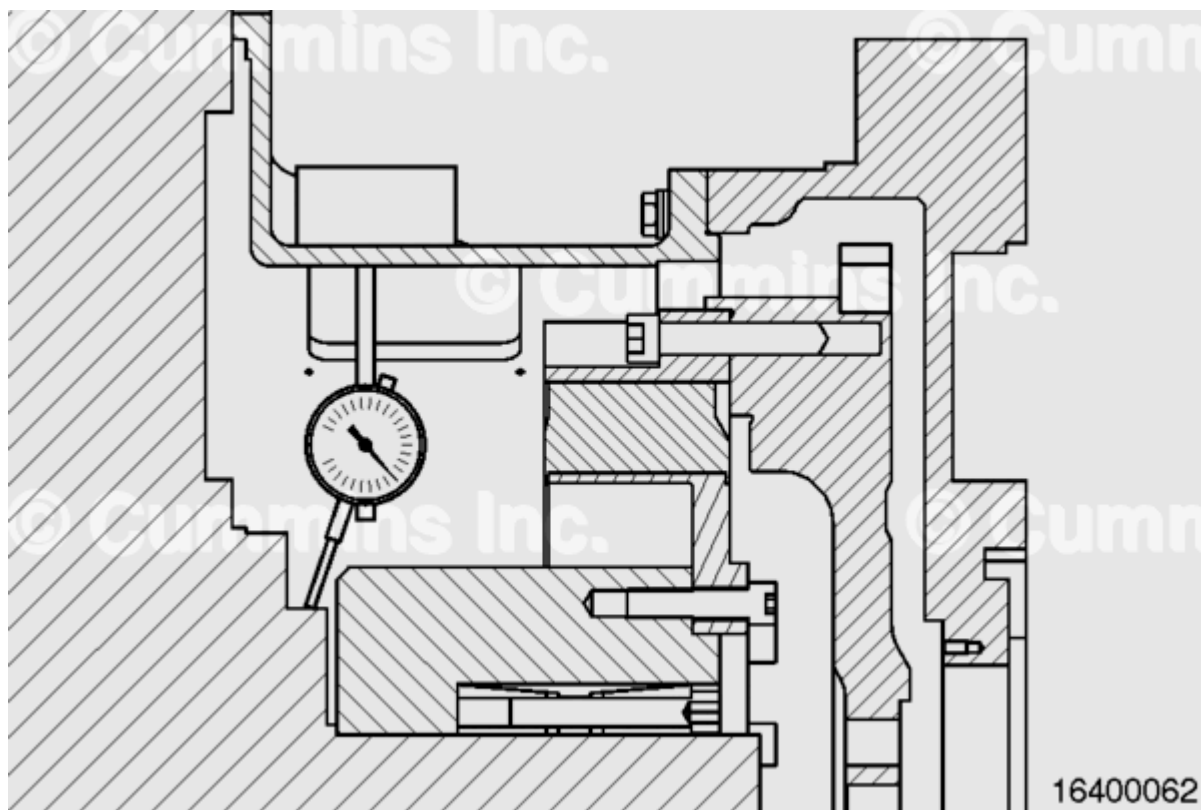

Figure 8: Attachment Shaft Runout and Radial Alignment
- See Figure 8 below for a representative illustration of the concepts discussed here. Install and tighten the bolts attaching the driven member to the engine flywheel housing. Attach at least four bolts from the driven member to the flywheel/flexplate and tighten.